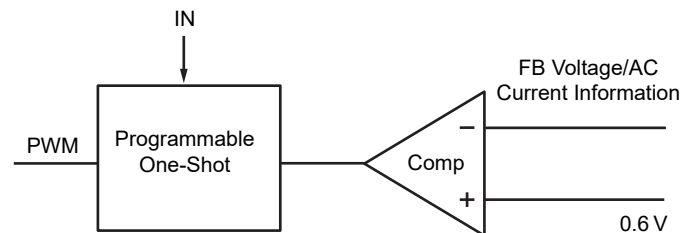

Figure 2. Simplified Control Schematic of AOZ2152LQI-30
The control algorithm of AOZ2152LQI-30 is constant-on-time PWM control with input feed-forward. The simplified control schematic is shown in Figure 2. The high-side switch on-time is determined solely by a one-shot whose pulse width is inversely proportional to input voltage (IN). The one-shot is triggered when the internal 0.6V is higher than the combined information of FB voltage and the AC current information of inductor, which is processed and obtained through the sensed low-side MOSFET current once it turns-on. The added AC current information can help the stability of constant-on time control even with pure ceramic output capacitors, which have very low ESR. The AC current information has no DC offset, which does not cause offset with output load change, which is fundamentally different from other V^2 constant-on time control schemes.